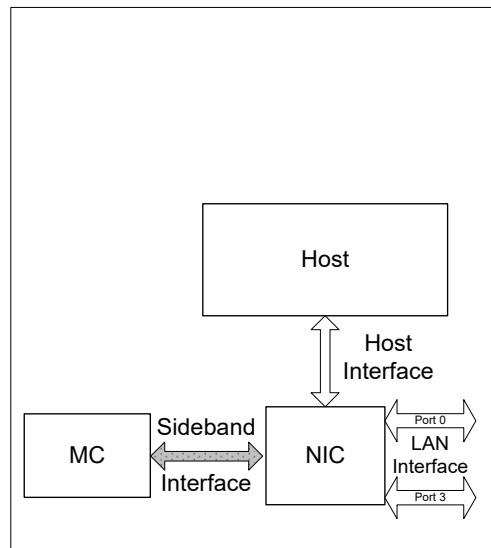

Figure 10-1 Sideband Interface
10.1 Pass-Through (PT) Functionality
Pass-Through (PT) is the term used when referring to the process of sending and receiving Ethernet traffic over the sideband interface. The I350 has the ability to route Ethernet traffic to the host operating system as well as the ability to send Ethernet traffic over the sideband interface to an external BMC. See Figure 10-1.